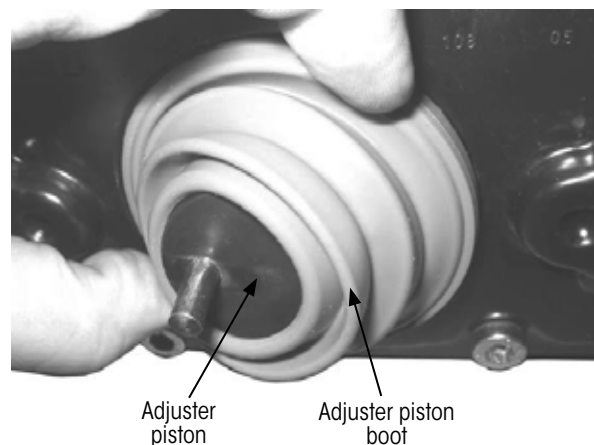

Figure 80: Installing adjuster piston boot
1. **Slide** a new and grease-free adjuster piston boot (Figure 80) over the adjuster piston.